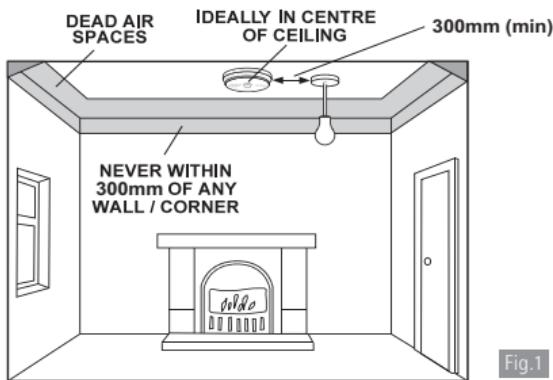

Fig. 1
- At least 300mm away from walls (see Figure 1).